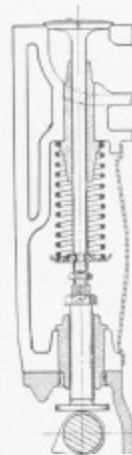

Fig. 30. Valve Properly Seated
**Perfect Alignment Maintained.**—Figure 30 illustrates a finished valve perfectly seated. This valve was refaced in the lathe according to the South Bend method as described in this chapter. Note the true alignment from the center of the valve head through the center of the valve guide bushing. The valve face has a perfect bearing on the valve seat.